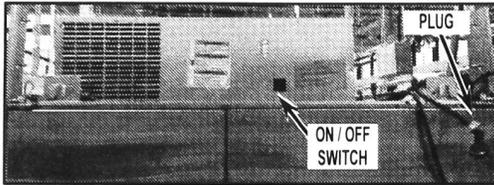

FIGURE 1
**NOTE:** The High Voltage (HV) Assembly you receive may not look the same as the control shown in the instructions or the control you are replacing. Do not remove any components off the new assembly to replace components on the old assembly. This must be installed as a complete assembly.
- 1 High Voltage (HV) Assembly
2. Locate the ON/OFF switch and toggle the position to OFF. See *Figure 1*.